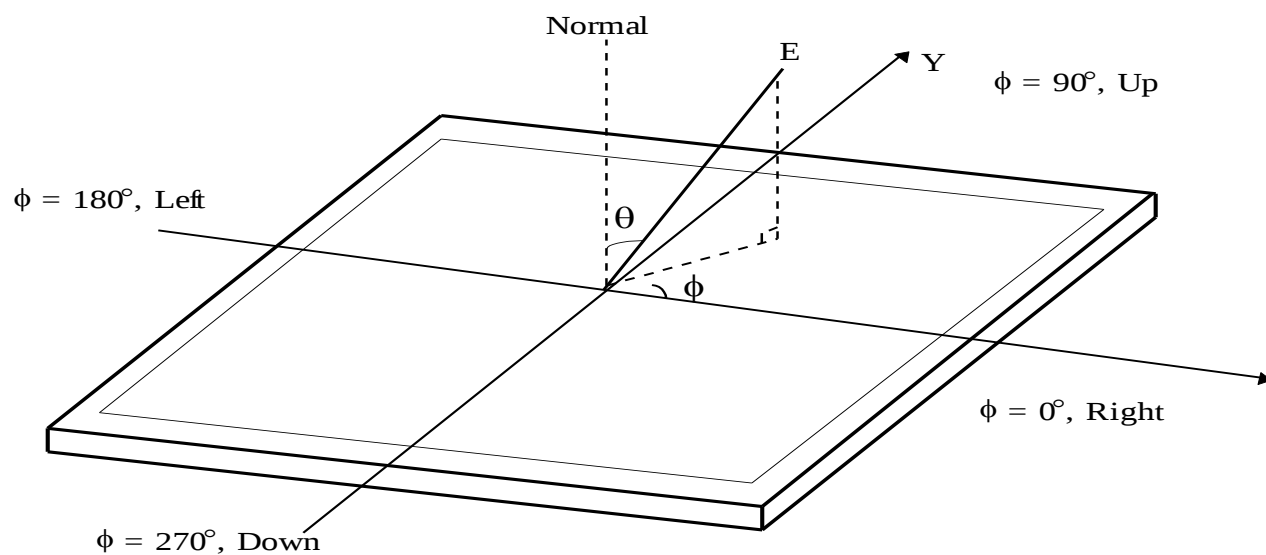

FIG.6 Viewing Angle
Optical characteristics are determined after the unit has been 'ON' and stable in a dark environment at $25 \pm 2^\circ\text{C}$. The values are specified at distance 50cm from the LCD surface at a viewing angle of Φ and θ equal to 0° . FIG. 6 shows additional information concerning the measurement equipment and method.
5. Viewing angle is the angle at which the contrast ratio is greater than 10. The angles are determined for the horizontal or x axis and the vertical or y axis with respect to the z axis which is normal to the LCD module surface. For more information, see the FIG. 6.